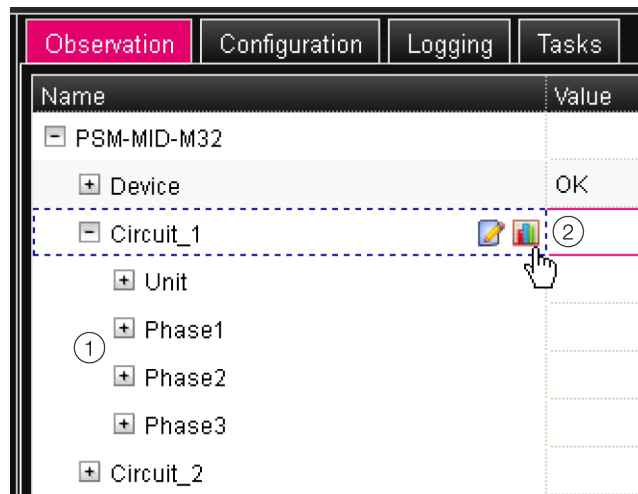

Fig. 5: Tree representation:
If after selection of the "Circuit 1" level, the lower-level "Unit", "Phase 1", etc. entries are displayed (fig. 5, item 1), switch to the tabular representation as follows:
- Click the coloured "graphic" symbol suffixed to the **Circuit 1** entry in the form of a stylised diagram (fig. 5, item 2).
The display changes to the tree representation (fig. 5) and you can access the individual measured and setting values for infeed 1.